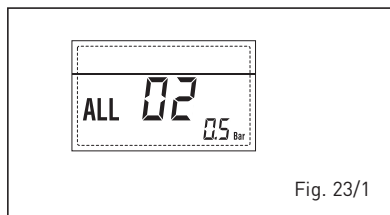

Fig. 23/1
– HIGH WATER PRESSURE ANOMALY ALARM 03 (fig. 23/2)